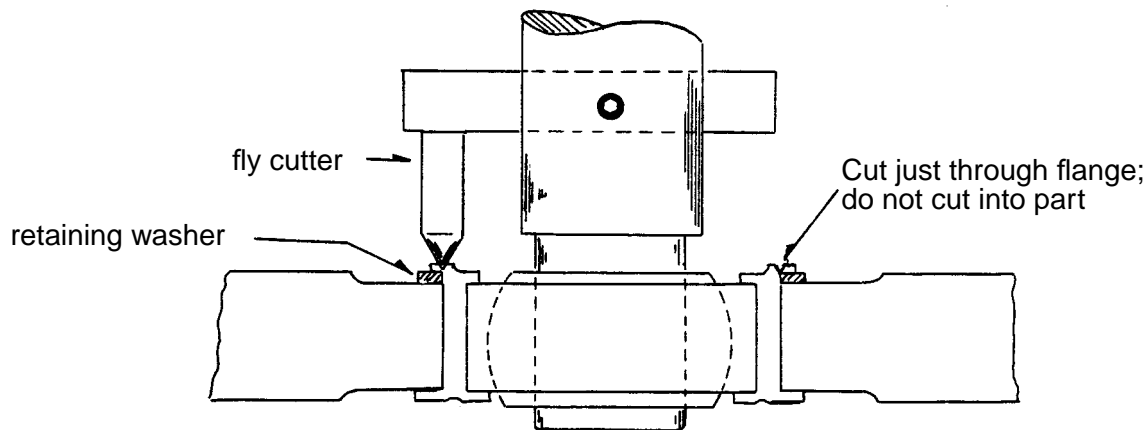

Figure 6 - Removal of Installed Bushing
- Step 1. Cut through the outward flared flange which has been flared over the retaining washer, using a piloted fly cutter in a drill press (see Figure 6).